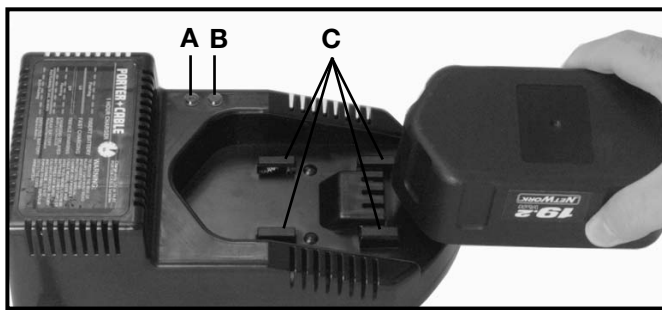
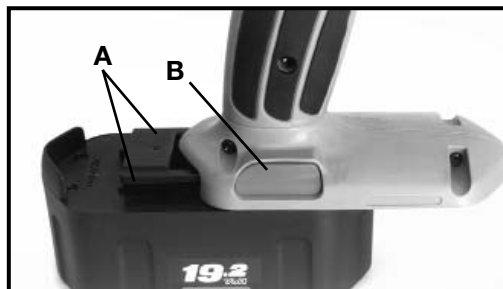

Fig. 5
Fig. 6
Make sure power circuit voltage is the same as that shown on the charger specification plate. Connect charger to power source. The green light (A) Fig. 5, should begin to flash. This indicates the charger is ready to begin charging.
Position the battery pack on charger, align rails (A) Fig. 6 on battery pack with four tabs (C) Fig. 5 on charger. Slide battery forward onto charger until it stops.
The green light (A) Fig. 5, should begin to glow continuously, indicating that the battery pack is receiving a "Fast Charge" (if the green light does not glow continuously, or if the red light (B) Fig. 5, also begins to flash: see DIAGNOSTICS). After approximately one hour, the "Fast Charge" indicator light should go out indicating that the battery pack is fully charged and that the charger is now in a "Trickle Charge" mode. The battery pack can be left on "Trickle Charge" until you are ready to use it.
The Model 8624 Charger is equipped with a diagnostic system that automatically checks the battery pack each time a pack is inserted into the charger. If no problems are found, the charger will automatically switch to "Fast Charge" mode as described in NORMAL CHARGING. If a problem is found, it will be indicated by the charger indicator lights (see Fig. 5), as follows:
TO REMOVE BATTERY PACK: Depress the battery release button (B) Fig. 6, and pull battery pack out of tool.
TO INSTALL BATTERY PACK: Align rails (A) Fig. 6, on battery pack with slots on tool and push battery pack onto tool until it locks in place.